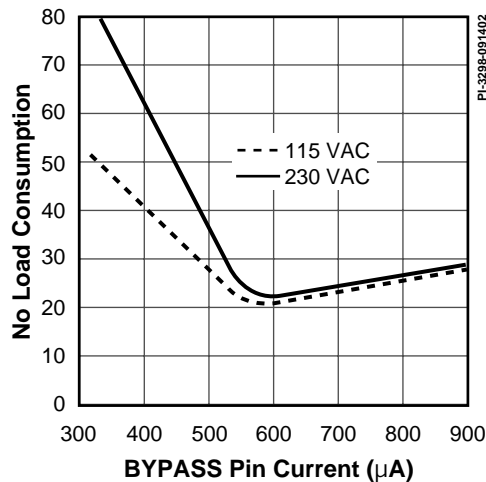

Figure 2. No-load Input Power vs. BYPASS Pin Current.
the internal current source at no-load. Other load conditions are not important as the device will be powered from the DRAIN pin if bias is lost, allowing a simple flyback winding to be used. Figure 2 shows that the bias winding and choice of R2 should provide approximately 550  $\mu$ A at no-load to minimize consumption.
- Design bias winding circuit to provide approximately 550  $\mu$ A at no-load. Figure 2 shows the details.